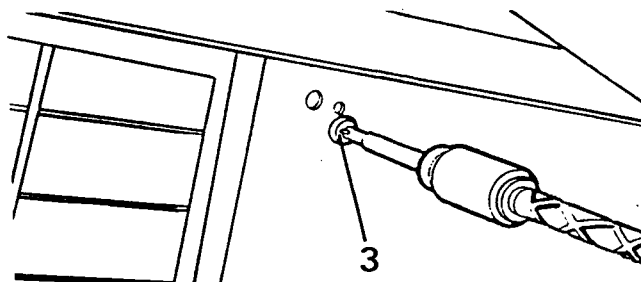

Figure 9
3. From inside of the boot remove two retaining screws from top corners securing the squab frame to the vehicle body, see figure 9.